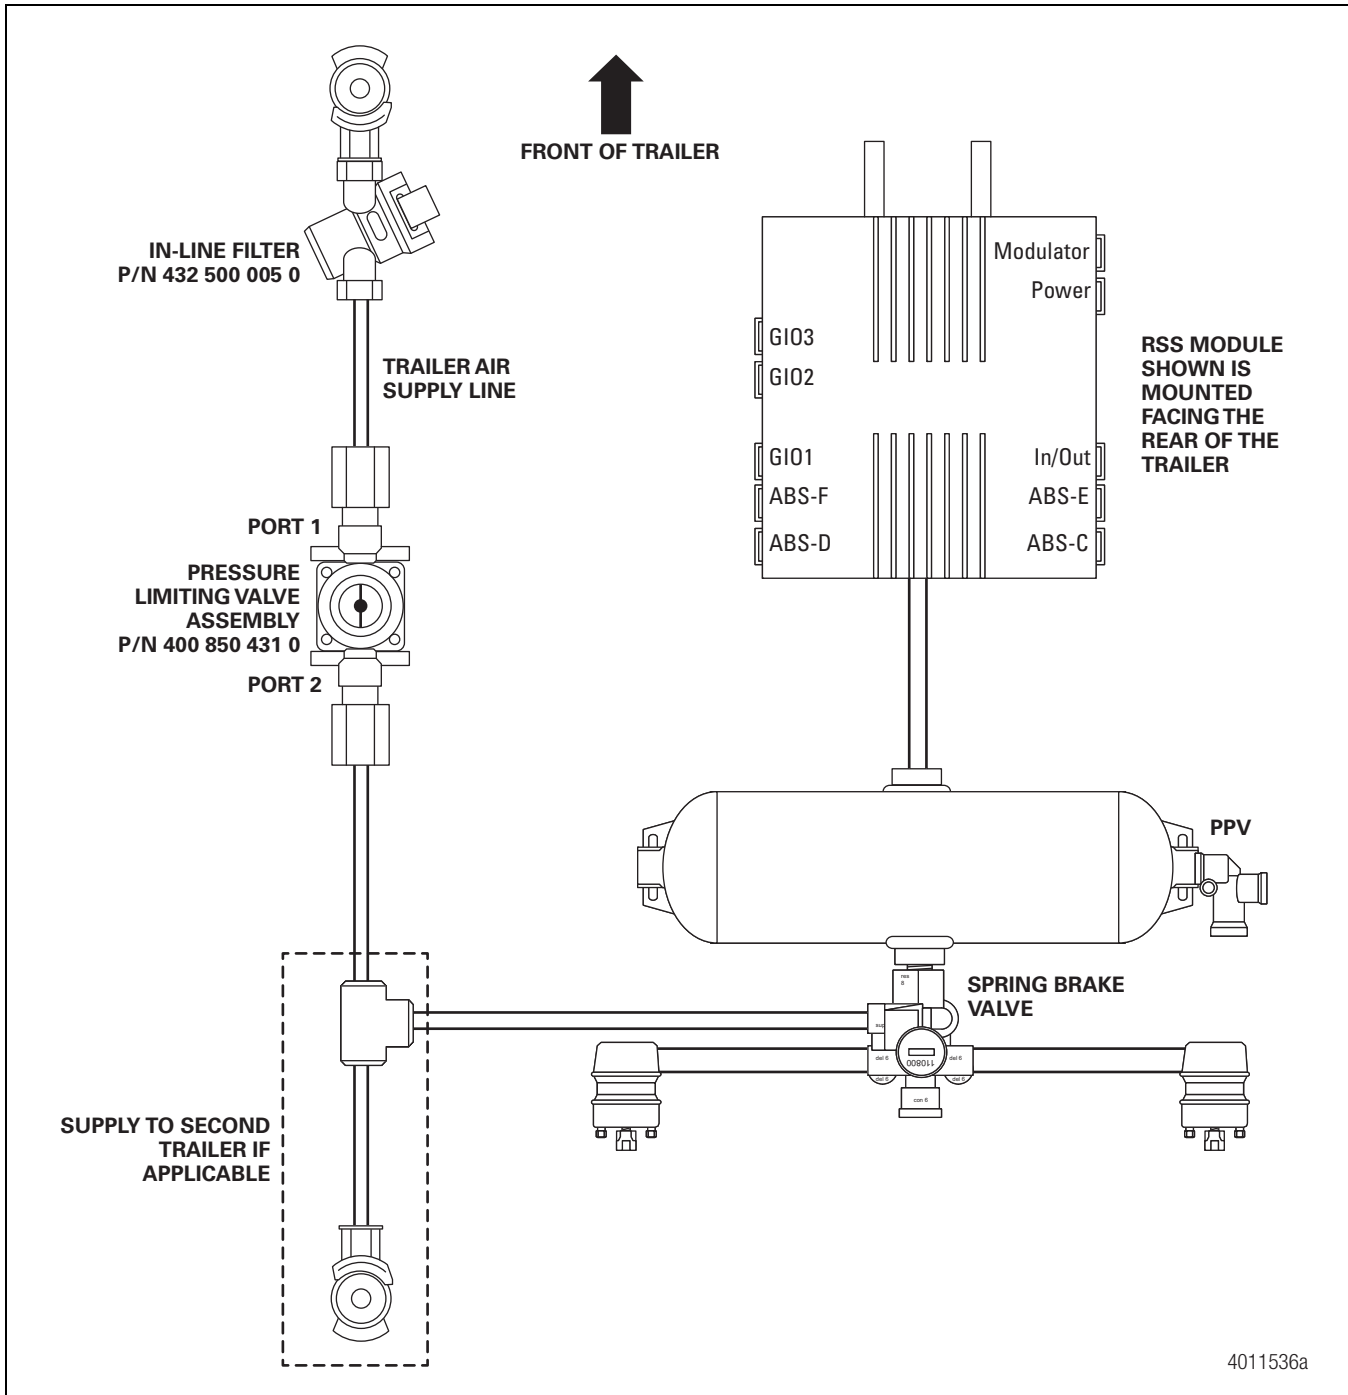

Figure 2
NOTE: In applications where multiple spring brake valves are used, for example B-trains, plumb the pressure limiting valve on the lead trailer before the first spring brake valve in the system, and before the tee that feeds the second trailer. This will limit pressure to both the lead and pup/trailing trailers. Figure 2.
3. Ensure that the minimum amount of nylon air line length is used between the connection of the pressure limiting valve and the spring brake valve, as this will affect system timing. Figure 2.
5. To protect the pressure limiting valve from contamination, WABCO requires you to install an in-line filter plumbed upstream from the pressure limiting valve as shown in Figure 2. This should be mounted with the bronze colored retainer slide facing down. Refer to TP-03100 for complete in-line filter installation information.